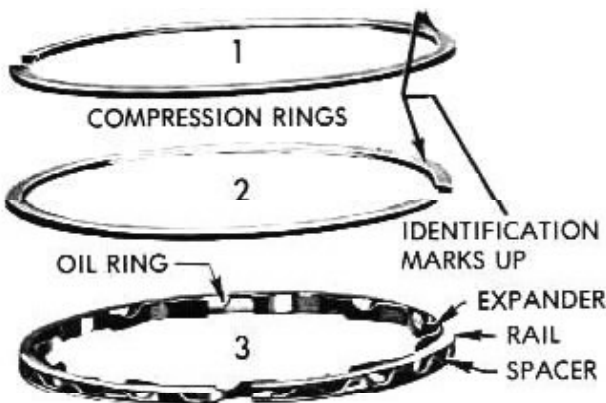

Figure 60-104 - Piston Rings (350 Cu In.)
8. Install piston rings as shown in Figures 60-104 and 60-238. Position expander ends over piston pin. Install oil ring rail spacer, and oil ring rails. Position gaps in rails "up" on same side of piston as oil spurt hole in connecting rod. Install compression rings in upper two grooves.